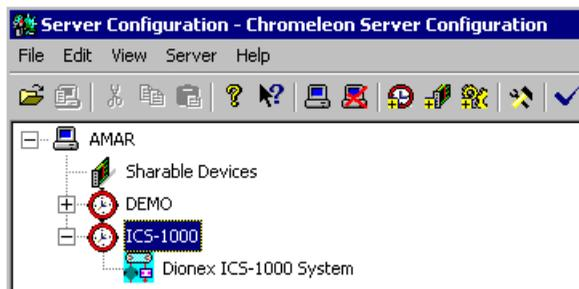

Figure B-15. Example: ICS-1500 Timebase
1. Follow the instructions in *Installing the Chromeleon Chromatography Management System with a Dionex Ion Chromatography (IC)* (Document No. 031883) to add the DX-LAN card to the server configuration as a sharable device.
2. Select the timebase that was created for the ICS-1500 (see Figure B-15); then, click the **Add device** icon  on the toolbar (or select **Edit>Add Device**).